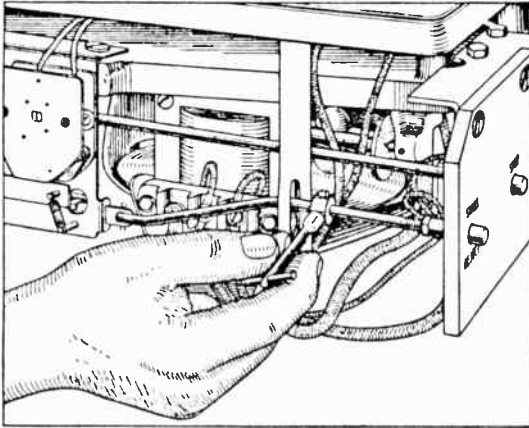

Fig. 16 - Adjusting Reject Collar
b. If the condition is not yet corrected, loosen the set screws in the collar as shown in Fig. 16, and set the collar approximately 1/8 of an inch away from the trip lever. Re-tighten the set screws.